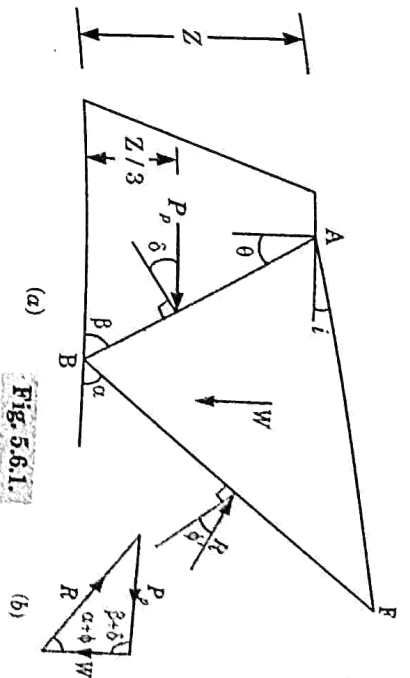

Fig. 5.6.1.
- The direction of R and P_p which oppose the movement are also shown in Fig. 5.6.1(b).
- The value of P_p is determined from triangle shown in the Fig. 5.6.1(b).
- The resultant passive pressure P_p acts at a height of $Z/3$ measured from the bottom of the wall and would be inclined at angle δ to the normal, as shown in Fig. 5.6.1(a).